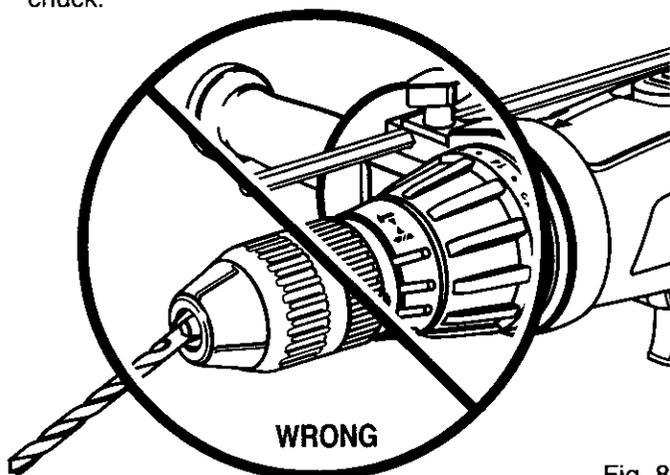

Fig. 8
**⚠ WARNING:** Make sure to insert drill bit straight into chuck jaws. Do not insert drill bit into chuck jaws at an angle and then tighten, as shown in Figure 8. This could cause drill bit to be thrown from drill, resulting in possible serious personal injury or damage to the chuck.